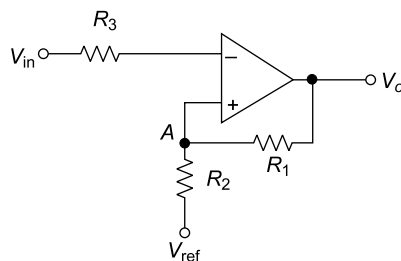

Fig. 5.97
35. A Schmitt trigger circuit is shown in Fig. 5.97 where $R_1 = 12 \text{ k}\Omega$, $R_2 = 6 \text{ k}\Omega$, $V_{ref} = +4 \text{ V}$, saturation voltage $\pm 15 \text{ V}$, and $V_{in} = 10 \sin \omega t$.